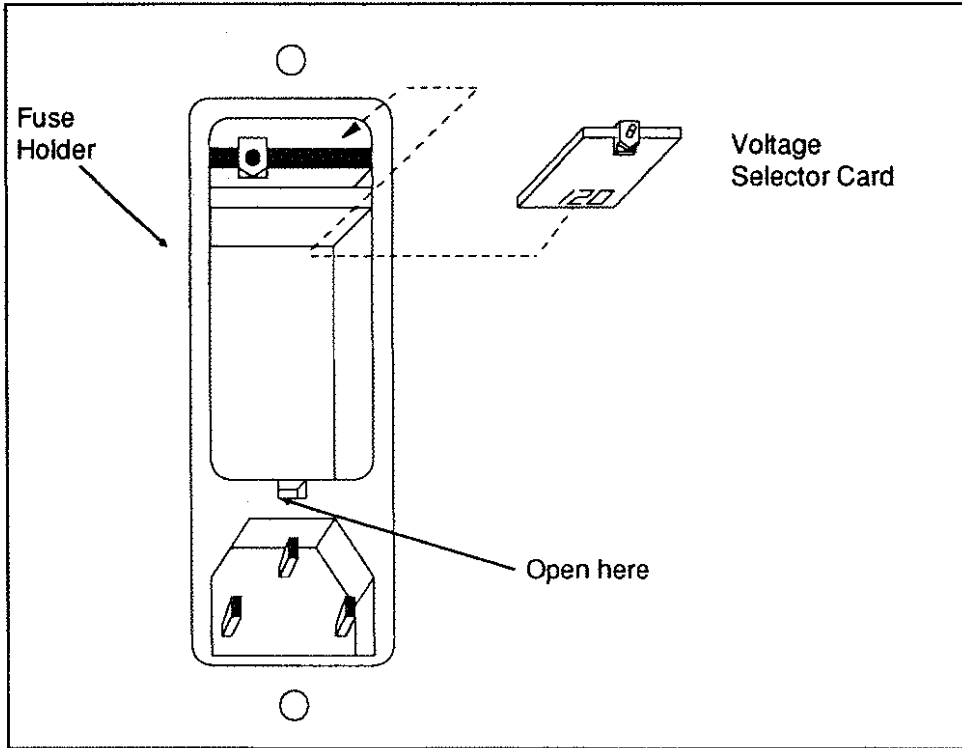

Figure 2-1. Removing the Fuseholder
7. Use a small screwdriver to pry out the fuse holder from the power module. See Figure 2-1.